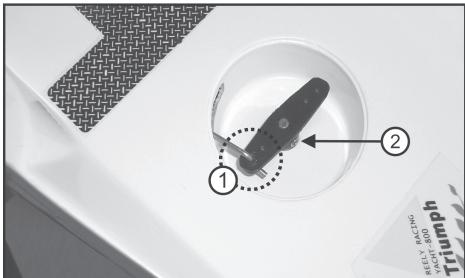

Figure 3c
Attach the „Z“ of the lineage rod to the rudder linkage lever (figure 3c, item 1).
Place the rudder linkage lever on the rudder linkage as shown in figure 3c.
Attach the rudder lineage lever to the rudder rods with a shortened hexagon socket wrench (figure 3c, item 2).